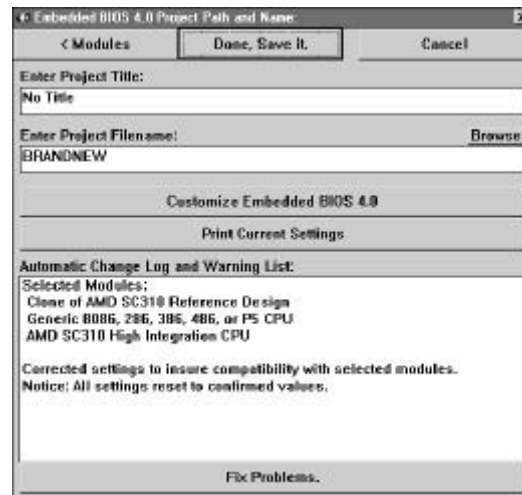

Figure 6.4. Main project control screen.
4. Specify a title and filename for the BIOS adaptation. The title of the BIOS will appear at the top of the screen when the completed BIOS boots on your target hardware. The file name is used to determine the name of the project directory where the .INC file and the final .ABS file will go as well as the name of those files. To preserve compatibility with DOS and with GSMMAKE, BIOSStart limits the project file name to 8 characters. The default settings as well as the screen that you set them on is displayed in Figure 6.4.
Clicking on the [**Previous Menu**] button will take you back to the last menu. If you move all of the top menus aside, until you see the bottom menu, you could click on [**Previous Menu**] and BIOSStart would take you back to a screen similar to the one in Figure 6.4.